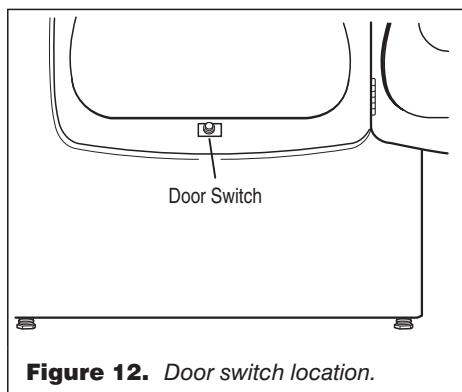

Figure 12. Door switch location.
- Check that the wires between the door switch and machine control electronics are connected. See figure 12, page 11 for switch location and see Removing the Front Panel/Drum Assembly, page 11.